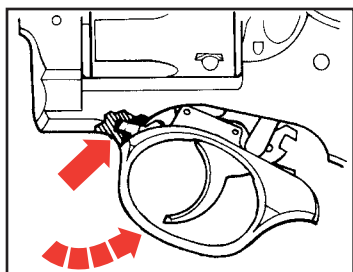
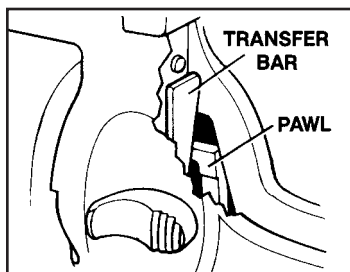

Figure 15
Figure 16
2. Hook front of trigger guard into recess in frame (See Figure 15). Align pawl in its recess in the frame and be sure transfer bar is in correct position in rear of firing pin (See Figure 16). Using mainspring lever, withdraw trigger guard latch and swing trigger guard into position in frame. Then allow latch to re-engage. If solid resistance is felt when swinging trigger guard into frame, or if trigger guard will not lock into position, re-check position of pawl and transfer-bar (See Figure 16).